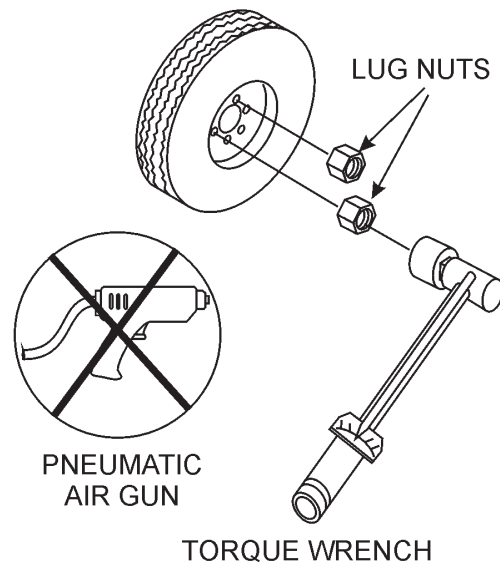

Figure 35. Wheel Lug Nuts Tightening Sequence
2. Torque all lug nuts in sequence. See Figure 35. **DO NOT** torque the wheel lug nuts all the way down. Tighten each lug nut in 3 separate passes as defined by Table 9.
The rigid type axle and associated hardware (Figure 35) should be periodically inspected for signs of excessive wear, elongation of bolt holes, and loosening of fasteners. Replace all damaged parts immediately.